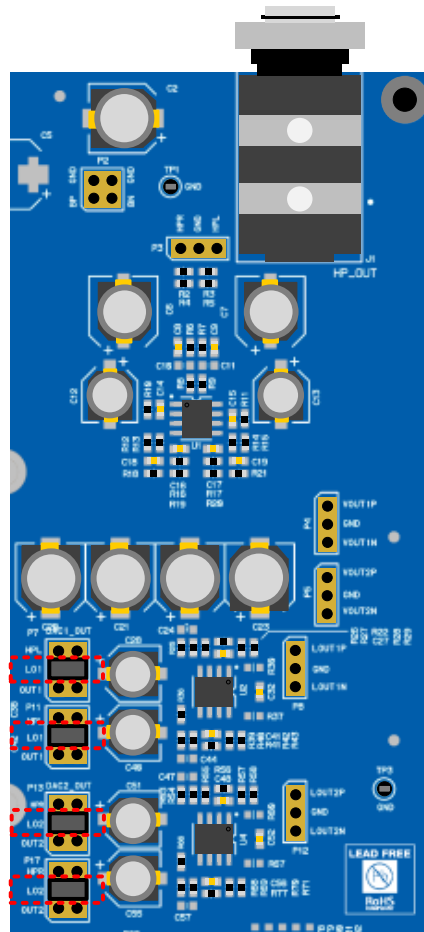

Figure 13: DAC Output to LOUT1/LOUT2
- LO1/2 – 5  $V_{RMS}$  output on Dunglass OUT3 and OUT4, shown in Figure 13.